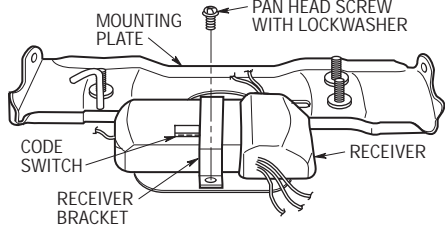

Figure 1
- 1. Remove and retain the pan head screw with lockwasher from the mounting plate (Figure 1). Engage the tab on the end of the receiver bracket (supplied) with the slot in the mounting plate and position the receiver on the plate.
**IMPORTANT: The flat side of the receiver must be placed against the mounting plate, and the receiver wires must be to the right of the bracket as shown in Figure 1.**
- 2. Swing the receiver bracket down over the receiver (Figure 1). Position the receiver so that the code switch is not covered by the bracket, then securely reinstall the pan head screw with lockwasher (previously removed).